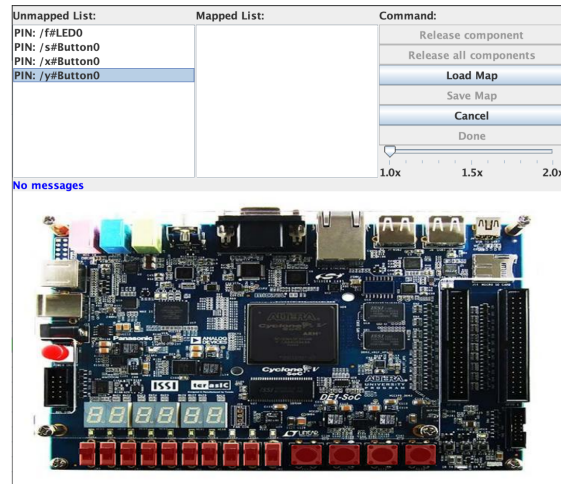

Figure 8: The board mapping window
11. Click on **Execute** under **Action method**. A window should open (Figure 8).